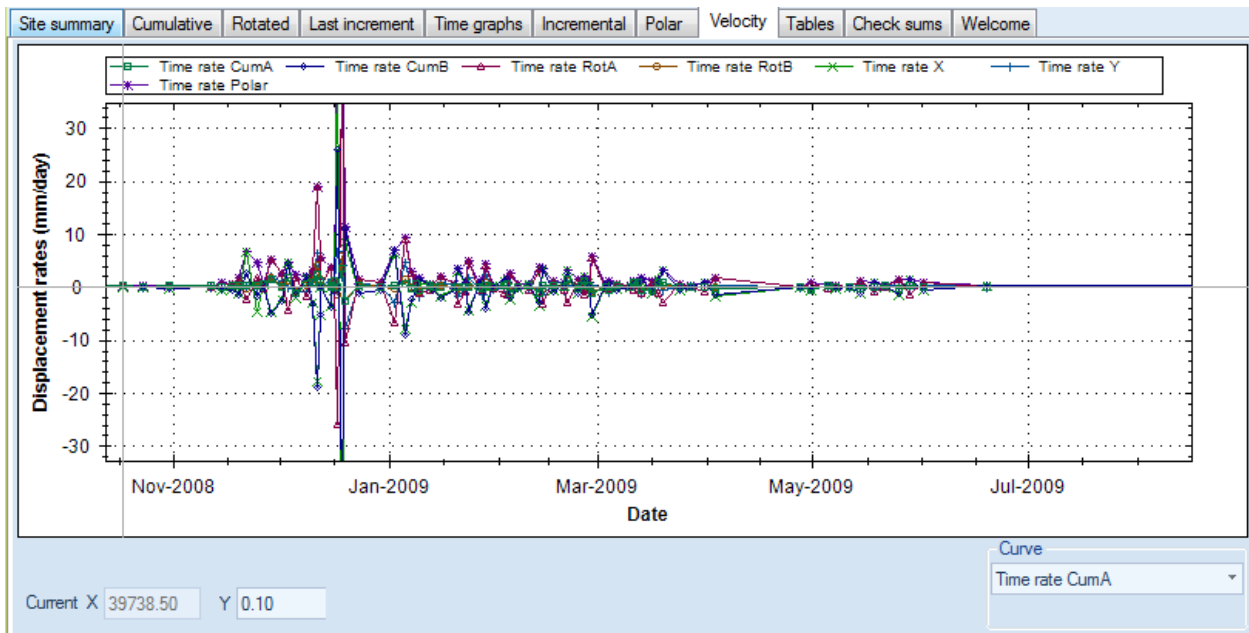

Figure 7.11: Velocity graph for current inclinometer (and selected elevation zone)
- **Velocity tab:** This graph plots the displacement change rates in mm/day or inch/day for all type displacements (Fig 7.11).